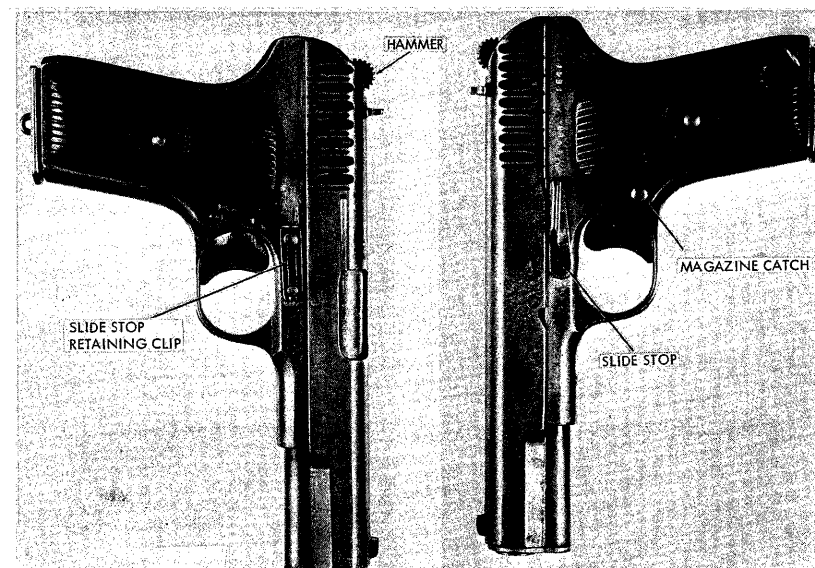
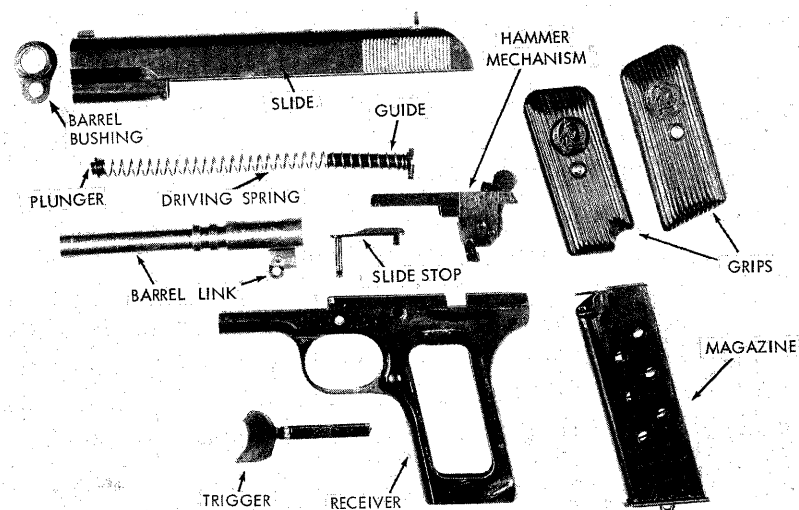

Figure 6. Soviet Tokarev pistol (TT-33).
Figure 13. Tokarev pistol, disassembled.
a. The Tokarev (TT-33) pistol (fig 6) is obsolete in the Warsaw Pact Armies; it has been generally replaced by the Makarov pistol. The TT-33, and copies thereof, are still in extensive use by most Asian Communist nations and by Yugoslavia. The Tokarev is known to have been produced in the Soviet Union, People's Republic of China, Hungary, Poland, and
Yugoslavia. These pistols are all remarkably similar, but can be identified by certain features. The Soviet TT-33 and Polish Pistolet TT are identical except for their grips; the Soviet pistol (fig 6) has an encircled star with the letters CCCP, while the Polish pistol (fig 7) has a triangular-shaped monogram with the letters FB on its grips. The North Korean Type 68 pistol, while based on the Tokarev design, is sufficiently different to warrant separate treatment (subsec E).
fire one shot each time the trigger is pressed. When the last round is fired, the slide will remain open. Remove the magazine by pressing the magazine catch inward (fig 6). Close the slide by pressing down on the slide stop (fig 6) or, after removing the magazine, pull the slide slightly to the rear and release it.
(1) Clear the pistol (para 15d), but do not insert the magazine.
(2) Use the point of a bullet or similar item to press in the recoil spring plunger (located directly under the muzzle) to unlock the barrel bushing. Rotate the barrel bushing half a turn until it, the driving spring, and its plunger can be removed from the slide (fig 13).
(3) Use the base of the magazine to press the slide stop retaining clip (fig 6) to the rear and to free the slide stop. Pull the slide stop to the left, out of the receiver.
(4) Invert the pistol and draw the slide forward off the receiver.
(5) Hold the slide inverted and swing the barrel link forward; lift up the rear end of the barrel to disengage it from the slide, and slide the barrel forward out of the slide.
(6) If the hammer mechanism did not fall free of the receiver, pull it out of the receiver (fig 13).
(7) No further disassembly is necessary or desirable.
(1) Place the hammer mechanism into the receiver.
(2) Slide the barrel, chamber end first, into the inverted slide until it drops into the locked position. Lay the driving spring guide (rounded side up and shaft toward the muzzle) on the barrel, just forward of the turned down link.
(3) While holding the hammer mechanism in place, slide the receiver onto the slide as far as it will go. Turn the pistol upright and look through the small hole above the trigger to insure that the holes in the link (fig 13) and the receiver are lined up; if they are not, jiggle the barrel until they are, then insert the slide stop and press the retainer forward to hold the slide stop in place.
(4) Insert the driving spring into the slide and slide it over the driving spring guide. Move the hammer to the half-cock position to lock the slide in place, and carefully force the driving spring and plunger into the slide.
(5) With the smaller hole of the barrel bushing aligned with the front sight, insert the bushing into the slide, and rotate it one-half turn. The driving spring plunger will lock it in place. Insert the magazine, cock the hammer, and press the trigger.
fig 13). When the slide recoils, the disconnecter is forced down, pushes the trigger extension down, and releases the sear. The sear spring then presses the sear against the hammer. As the slide continues to recoil, it rocks the hammer back so that the sear engages the sear notch on the hammer. When the slide counterrecoils, the sear holds the hammer cocked; when the slide is fully forward, the disconnecter is free to raise into the cut in the slide. This action allows the trigger bar, under the pressure of the trigger spring, to rise against the bottom of the sear. When the trigger is released, it moves forward, and as soon as the trigger bar clears the sear, the trigger spring again forces the trigger bar up into position in front of the sear. Pressure on the trigger will now fire another shot.